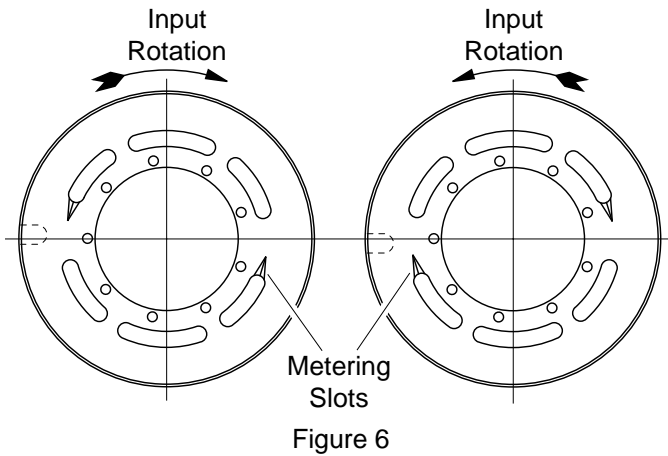

Figure 6
**Note:** Pump valve plates are unidirectional and must be matched to the input direction of the pump. The metering slots indicate the valve plate's direction, see figure 6. Also be aware that there are different shaped metering slots; 'V' shaped metering slots are standard, and kidney shaped metering slots are on propel valve plates.